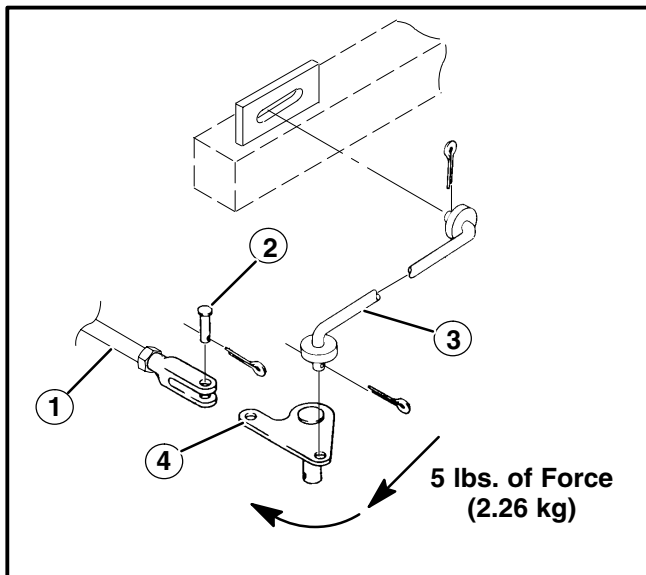

Figure 15
2. Work on adjustable rod with yokes on either end. Remove the clevis pin at yoke to disconnect the adjustment rod at pivot connector (See Fig. 15).